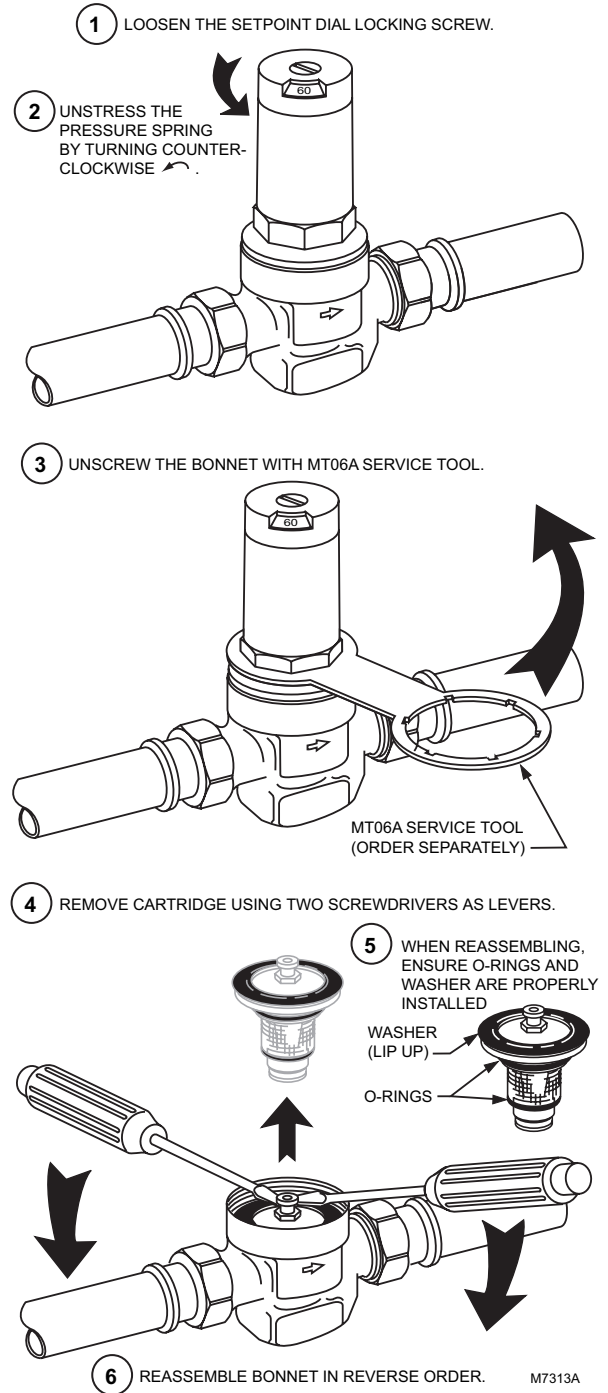

Fig. 3. Replacing the DS05 cartridge.
### Replacing the Cartridge (See Fig. 3)
4. Remove the cartridge using two screwdrivers as levers as shown in Figure 3.
Chatters.	<ul style="list-style-type: none"> <li>Replace screen and O-rings.</li> <li>Replace the cartridge as shown in Figure 3.</li> </ul>